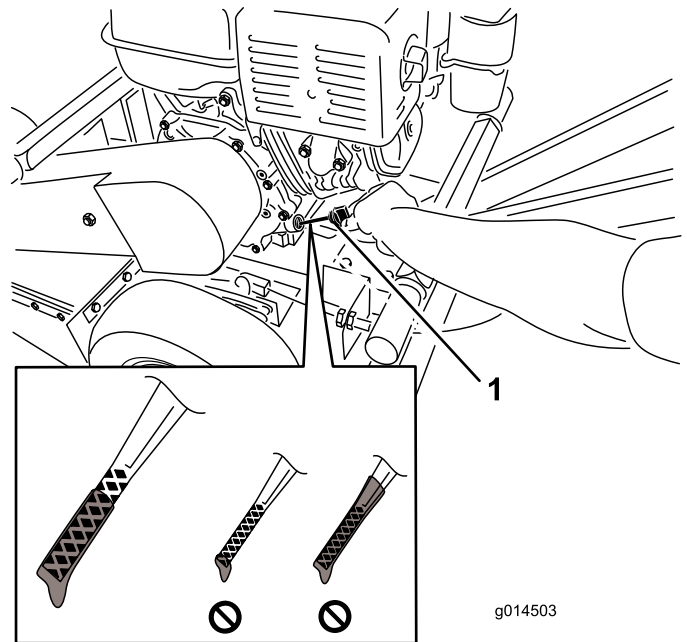

Figure 10
6. Pull the dipstick out and look at the end. The oil should be to the top of the upper limit range (Figure 10).